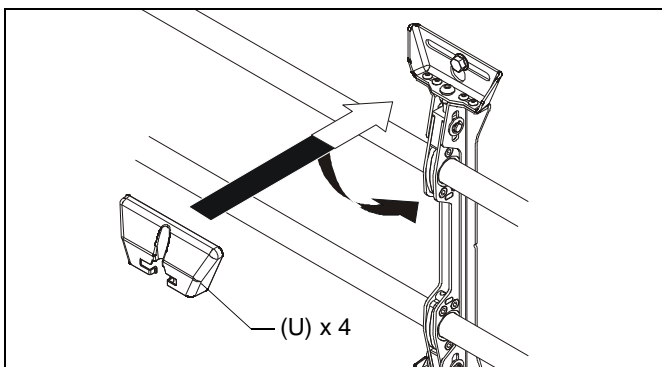

Figure 9
1. Attach wall covers (U) to top and bottom of both wall brackets. (See Figure 9)